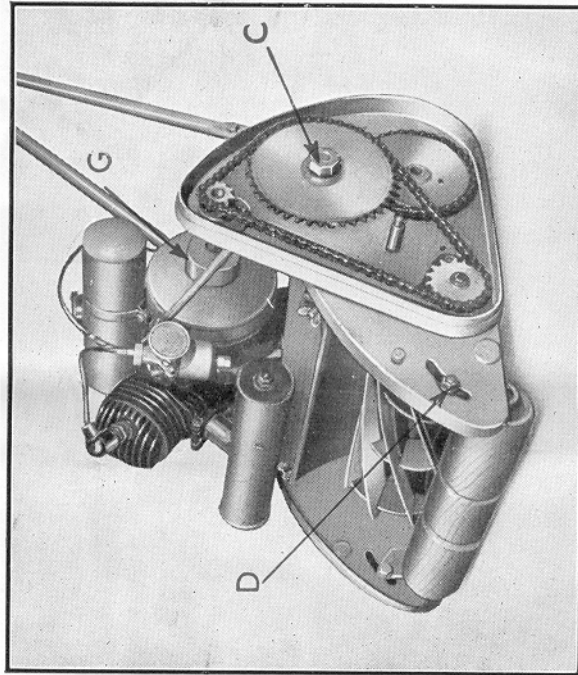

Figure 4.
1. Disengage hand operated clutch "G" (Fig. 4.)
Remove wing nut and Chaincase cover. Slacken large hexagonal nut "C" (Fig. 4). Take hold of nut and
large chainwheel and move the whole assembly in an upward direction to tighten the land roll drive chain. When chain becomes tight move whole assembly to the right to tighten the cutting cylinder chain while still maintaining the tension on the land roll chain. When both chains are adjusted to their correct tension tighten up the hex. nut "C" (Fig. 4).